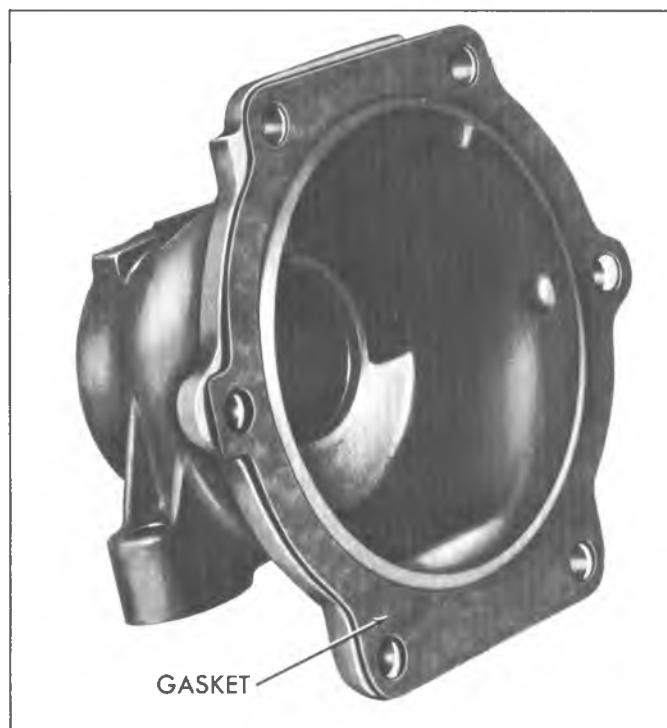

Fig. 24T--Case Extension and Gasket
3. Remove case extension to case gasket (fig. 24T).